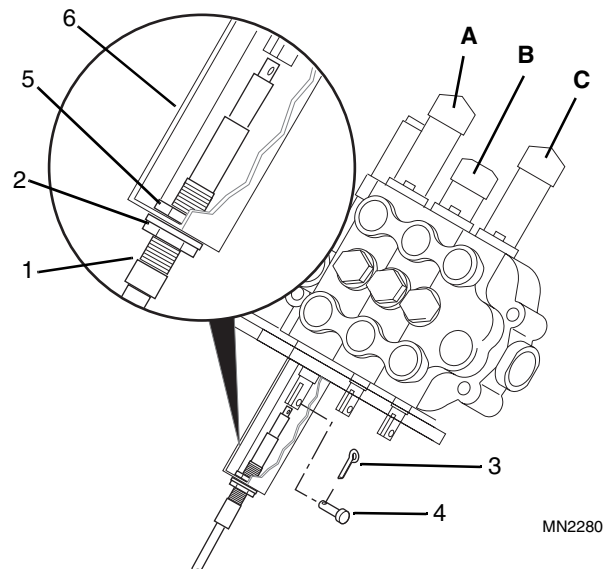

Figure 4-21 Control Cable Removal
9. Measure and record the visible thread length from the base of the cable end housing (Fig. 4-21, 1) to the bottom of jam nut (2). Tag each cable with this dimension and valve section position (A, B, or C).
10. Remove the hair cotter pin (Fig. 4-21, 3) and clevis pin (4) from each valve spool. Loosen and remove the inner jam nut (5) and remove each cable from the valve strap adapter (6).